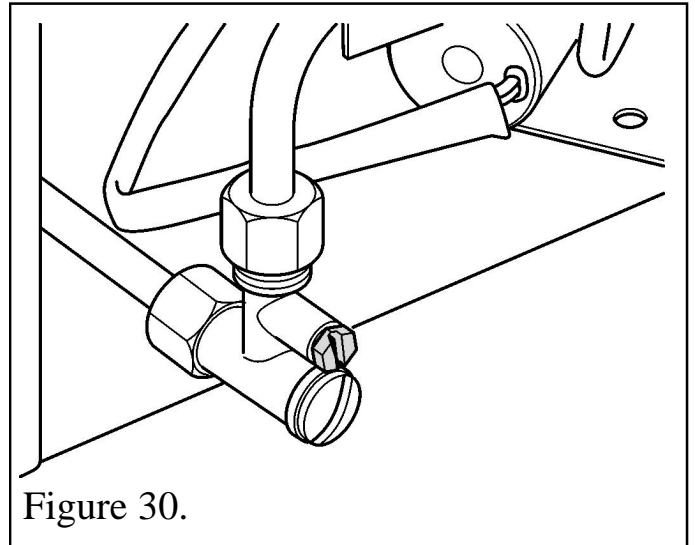

Figure 30.
1. Check the burner pressure by fitting a pressure gauge at the test point. The test point is on the inlet 'T' connector (See figure 30). Check the pressure with the fan on, the appliance alight and set to the 'HIGH' heat setting.